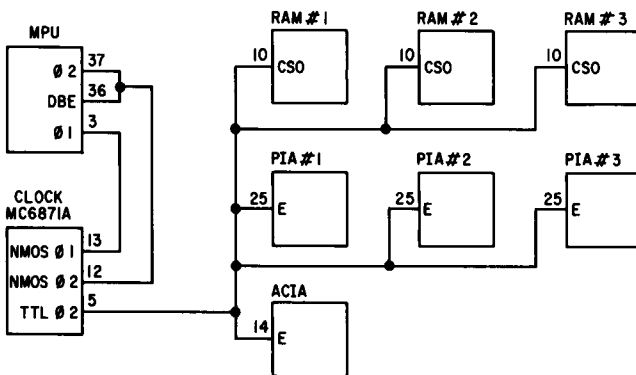

Fig. 10.6 Phase 1 and phase 2 clock signals
The $\phi 2$ clock-driver NMOS output signal must be tied to the $\phi 2$ and data bus enable input pins of the MPU, and the $\phi 1$ clock-driver NMOS output to its $\phi 1$ input pin. Phase 2 ($\phi 2$) is also used as a sync signal to any part of the system that the MPU can write into. This $\phi 2$ should not be the same as the NMOS $\phi 2$ signal from the clock, for this is a non-TTL-compatible clock signal, but rather a TTL type $\phi 2$. This TTL $\phi 2$ should be tied to the enable pins (E) of the PIAs and the ACIA in addition to one of the chip selects on each RAM. In our sample system, it will be tied to the CS0 inputs of each RAM (Fig. 10.6). Notice that the TTL $\phi 2$ is not required in the ROMs, although it may be gated into a positive chip select if desired. In most clock chips, there is usually a separate $\phi 2$ TTL output signal. The Motorola MC6871A clock chip has these outputs available.